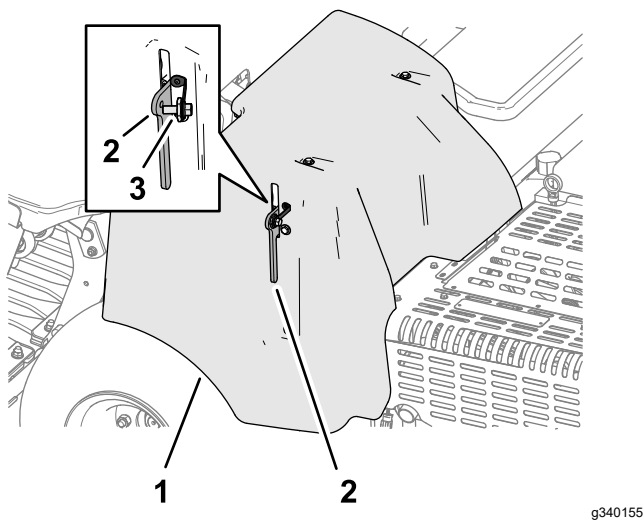

Figure 147
4. If your machine has the CE belt-cover latch lanyard, thread the lanyard bolt into the hole in the cover latch, and tighten the bolt (Figure 147).